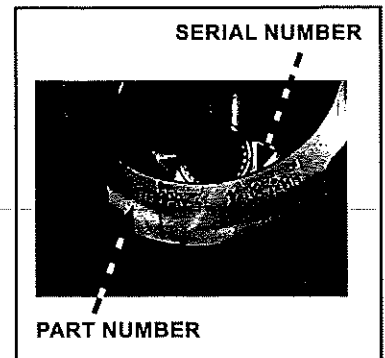

Figure 1 – Style 1
**Style 1:** This style will have the serial number and part number engraved on one line with a space between the part number and serial number. The entire engraving should be centered on the machined surface as shown in *Figure 1*.